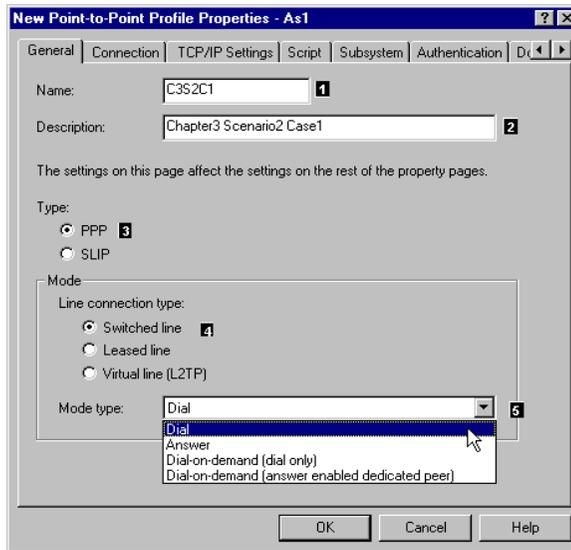
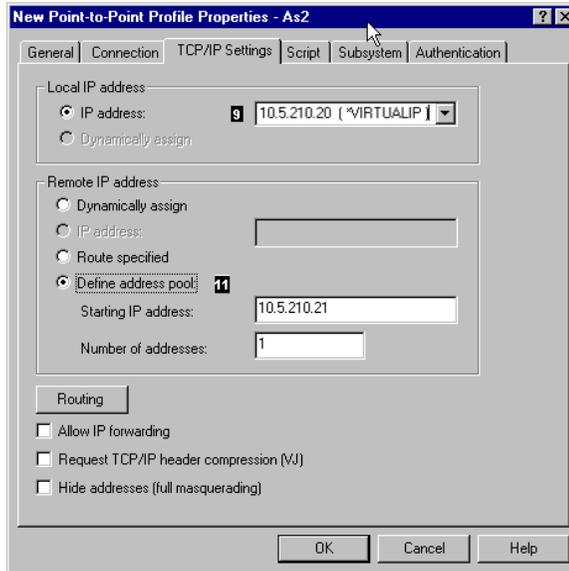

Figure 61. General page of the PPP profile as a switched dial
Figure 72. TCP/IP Setting page of the PPP profile as a switched answer numbered
2. Configure the General page (Figure 61 on page 82) of the PPP profile.
2. Select and configure the **TCP/IP Settings** of the PPP answer profile (Figure 72).
As you read the following sections, note that the numbers correspond to those numbers that appear in reverse bold type in Figure 61 on page 82 to Figure 72.